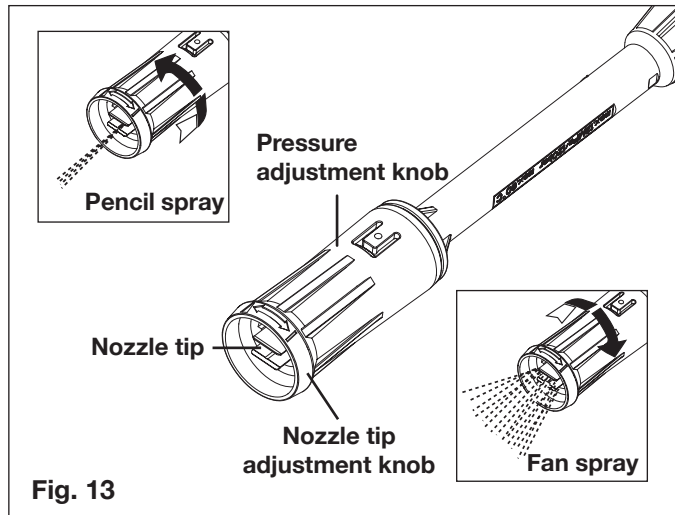

Fig. 13
2. The water pressure can be adjusted from low pressure (-) to high pressure (+) by turning the pressure adjustment knob. The nozzle tip can be adjusted from pencil spray (wide open tip) to fan spray (narrow tip) by turning the nozzle tip adjustment knob (Fig. 13).